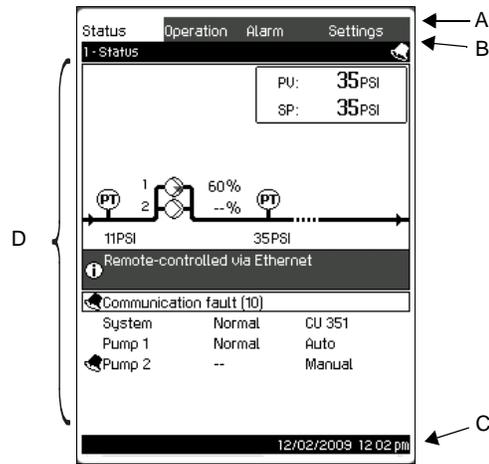

Fig. 7 Display design
The menu line (A) is illustrated in fig. 7.
The top line (B) is illustrated in fig. 7.